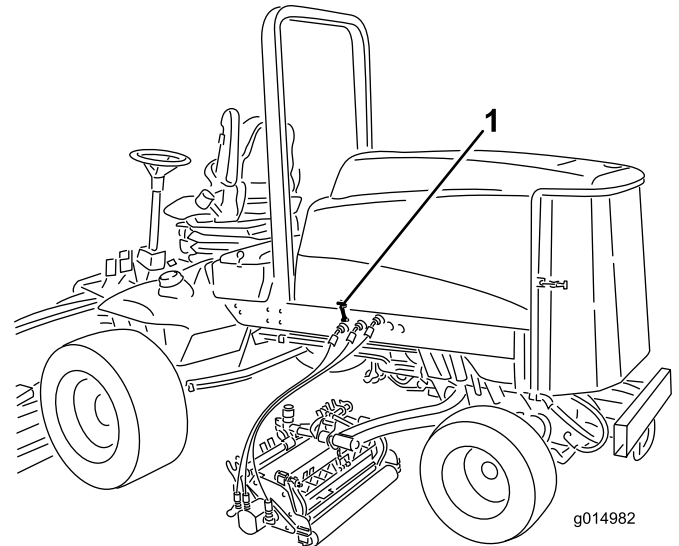

Figure 31
2. Unlock the hood latches and open the hood (Figure 31).